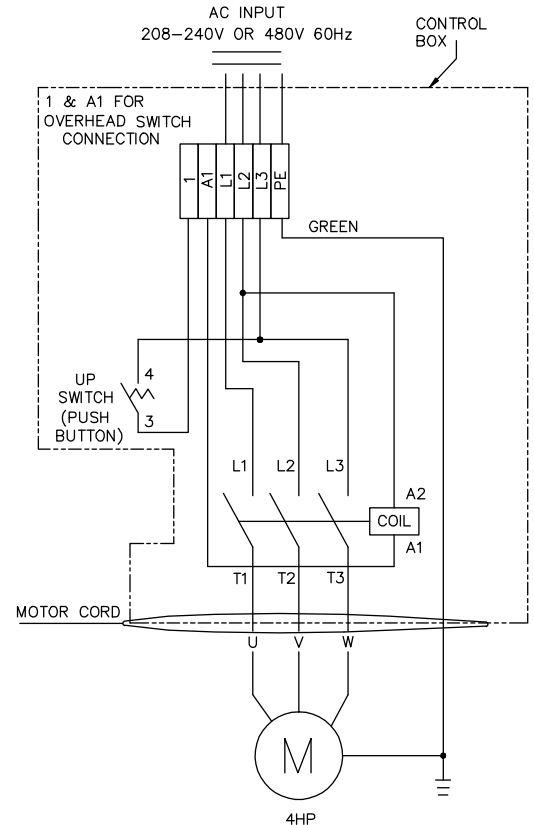

Fig. 22b
IMPORTANT: Use separate circuit for each power unit. Protect each circuit with time delay fuse or circuit breaker. For single phase 208-230V, use 20 amp fuse. Three phase 208-240V, use 20 amp fuse. For three phase 400V and above, use 10 amp fuse. For wiring see Fig. 21, Fig. 22, and Fig. 22b. All wiring must comply with NEC and all local electrical codes.
17. Overhead switch: Check overhead switch assembly to assure that switch bar is depressing switch plunger sufficiently to actuate the switch. The overhead switch is wired normally open, see Fig. 21, Fig. 22, and Fig. 22b. Lift will not operate until weight of switch bar is depressing switch plunger. Verify that Power Unit stops working when switch bar is raised, and re-starts when the bar is released.